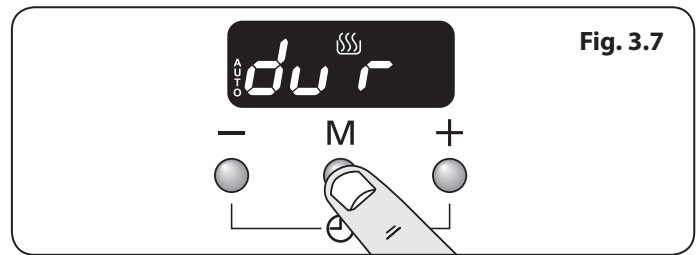

Fig. 3.7
1. Press the mode [M] button until the display flashes 'dur' (Fig. 3.7). Then set the 'cook period' using the [+] or [-] buttons.